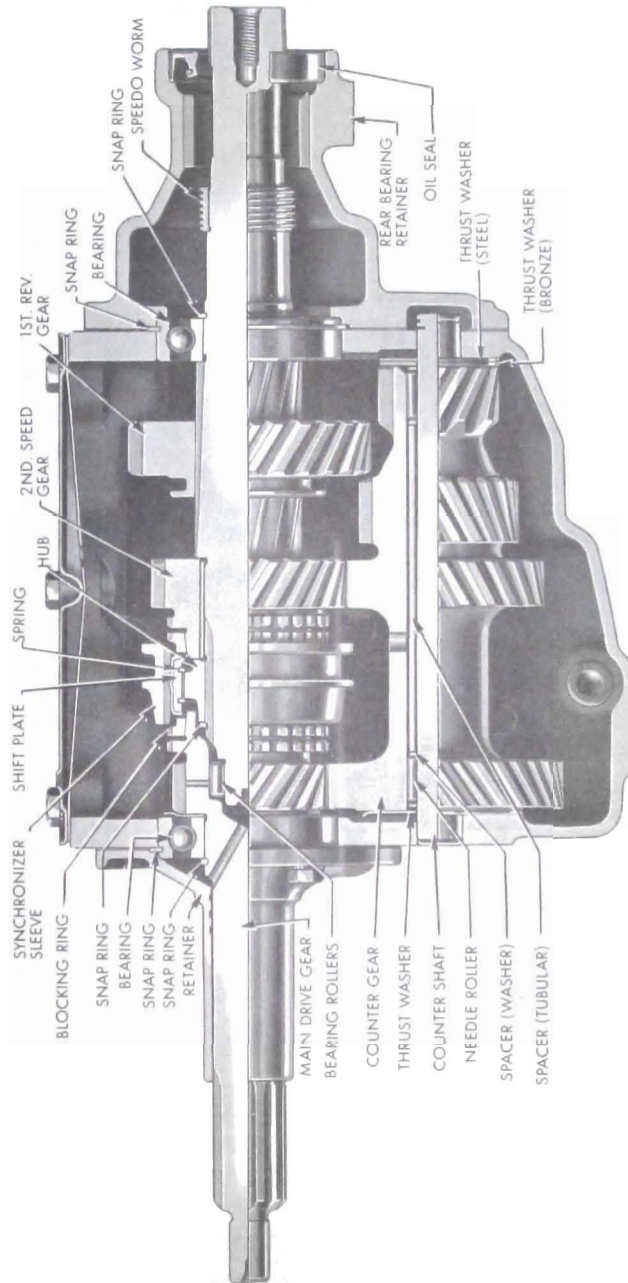

Figure 4-10—Synchronmesh Transmission
The transmission main drive gear is supported by a ball bearing which is a slip fit in the front wall of the transmission case. The ball bearing is shielded on the rear side by a slinger washer. This washer is held tight against a shoulder on the drive gear by the bearing pressed against it. The bearing is prevented from moving away from the washer by a selective fit snap ring in a groove in the drive gear shaft. The outer race of the bearing is grooved for a snap ring which fits between the transmission case and the front bearing retainer to hold the bearing and main drive gear in place. See Figure 4-10.
The reverse idler gear is provided with a bronze bushing and is supported on a shaft which is held stationary by a lock plate between it and the counter shaft. End clearance of the gear permits lubricant to reach the bushing. The second speed gear is provided with a bronze bushing and is mounted on the main shaft in such a position that it is constant mesh with the counter gear. It is held in position between the front shoulder of the first-reverse gear splines and the hub of the synchronizer assembly. The gear is free to rotate on the main shaft except when engaged by the synchronizing assembly during second speed operation. See Figure 4-10.
9. Lift manual control lever from 2nd-3rd range straight toward steering wheel into 1st-reverse range. Do this several times to align 1st-reverse lower control shaft lever, then tighten 1st-reverse shift rod adjusting clamp. See Figure 4-10.